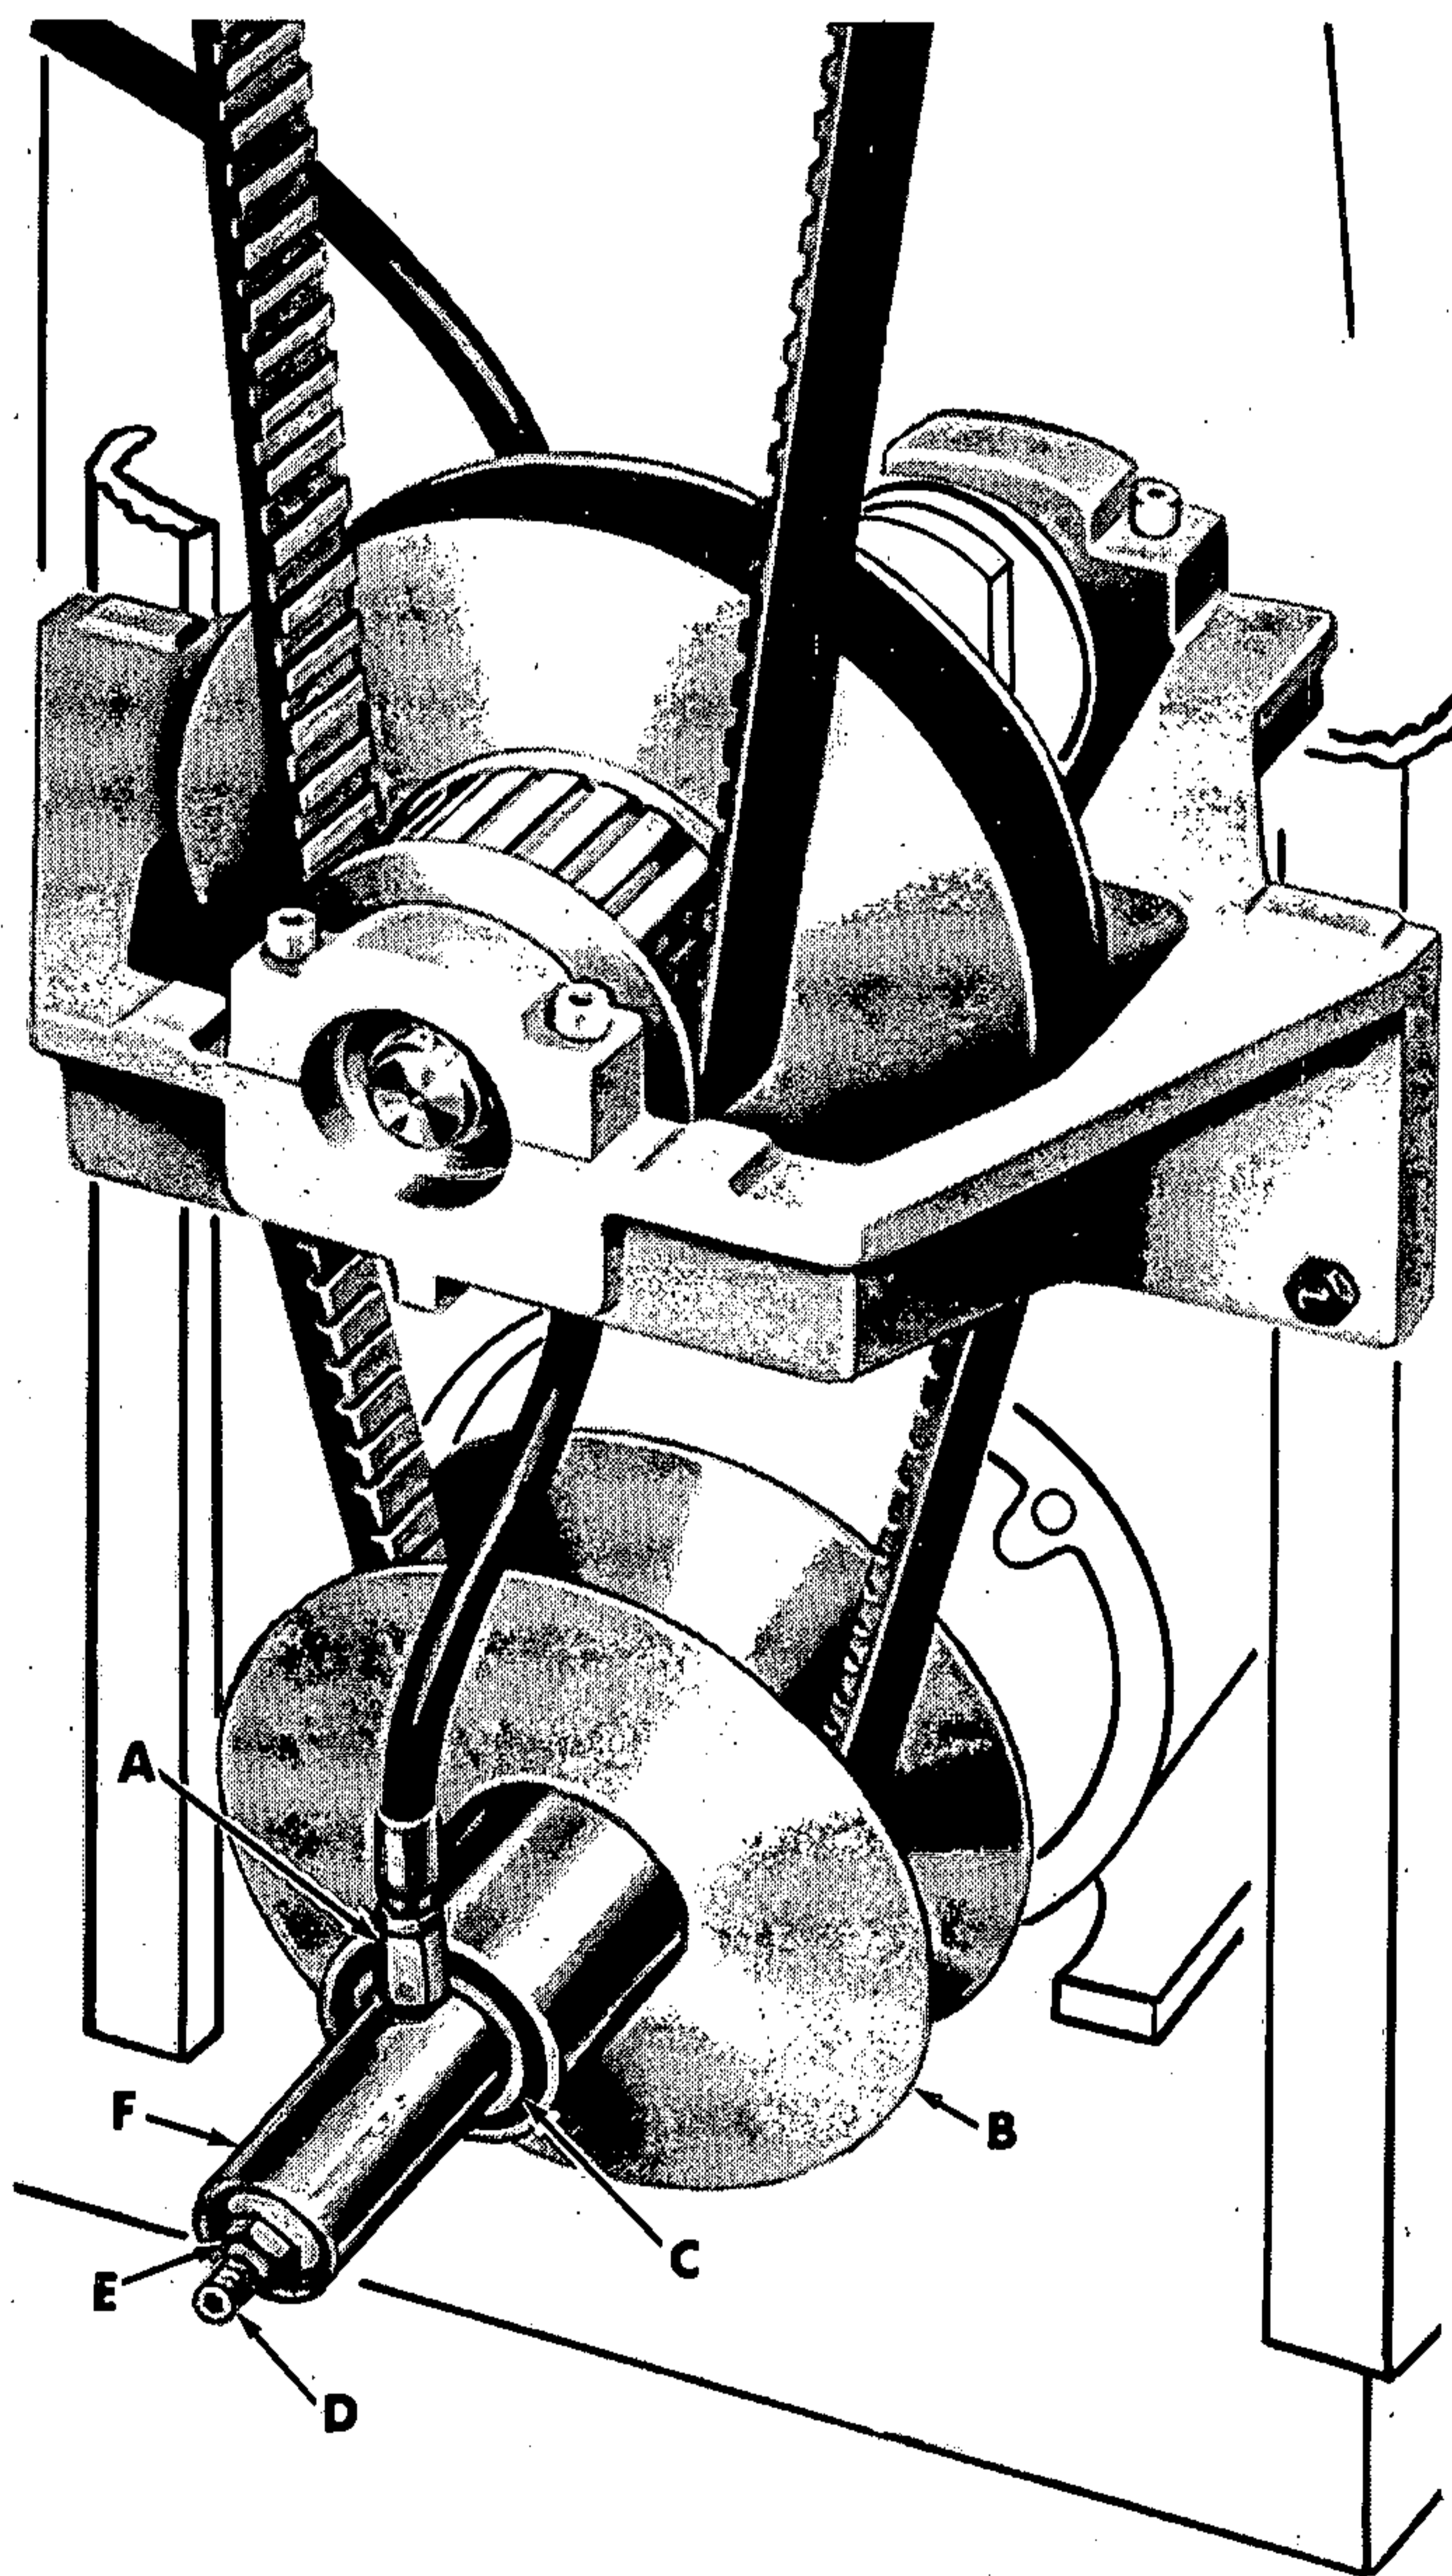

Figure 24
1. Hold nut (E, fig. 24) with wrench, and turn shaft (D) with a socket set screw wrench -- clockwise if speed is too low, counter-clockwise if speed is too high.
2. Measure distance from end of shaft (D, fig. 24) to nut (E). NOTE: Record this dimension.
3. Disconnect fitting (A) and drain oil from unit.
4. While holding shaft (D) with a socket set screw wrench, remove nut (E) and washer.
6. Pull hydraulic cylinder (F) and outer half of variable pulley (B) off the shaft (D) and remove stop washer from pulley (B).
7. Press hydraulic cylinder (F) with bearing (C) from variable pulley (B).
8. Replace the two "O" rings on shaft (D).
9. Install stop washer in pulley (B).
10. Press new hydraulic cylinder with bearing into variable pulley hub (B), then slide the assembly onto shaft (D) and pulley hub.
11. Install sleeve and washer on shaft (D).
12. Start nut (E) on shaft (D).